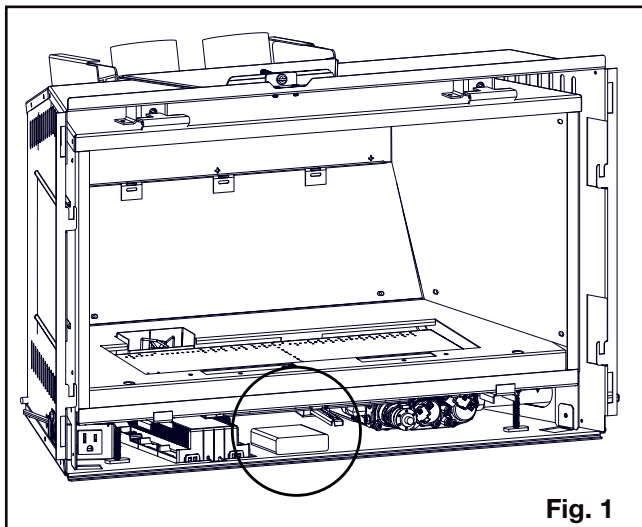

Fig. 1
2. Remove the battery holder from the bottom of the appliance, it is adhered with hook and loop tape (**Fig. 1**).